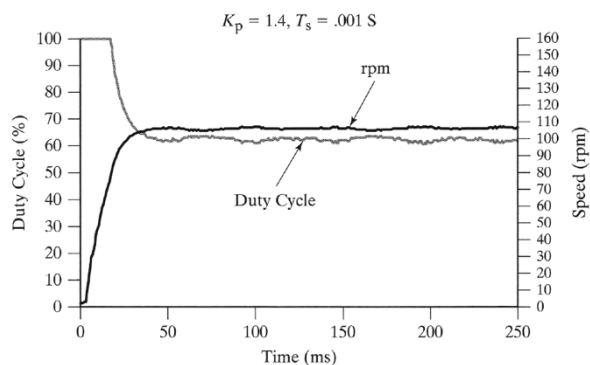

Figure Q4a.
- a) A controller for a DC motor-controlled system initially utilised a simple proportional controller. The proportional constant was set to $K_p=1.4$, and the system tested. The motor set-point is 150rpm, however, the controller ran the motor at 106rpm, as shown in Figure Q4a.